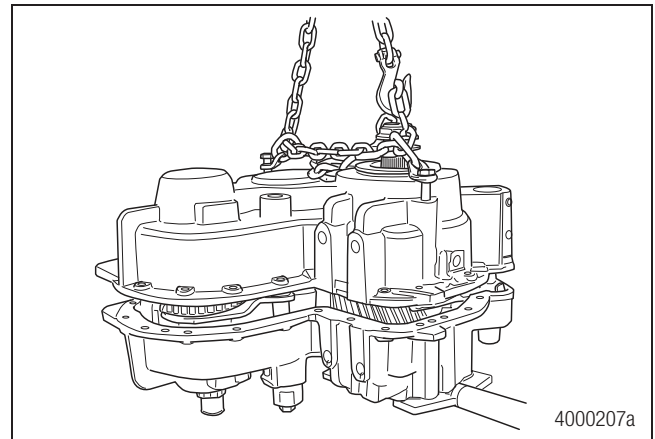

Figure 7.18
14. Use a suitable lifting device to install the rear cover and output shaft as an assembly over the front case. Figure 7.18. Guide the cover over the shift fork and push rod as the cover is being set into place over the case.